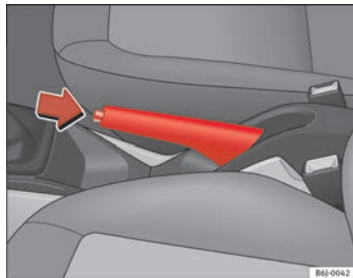

Fig. 103 Handbrake between the front seats ▶
- Pull the handbrake lever up firmly ⇒ fig. 103.
- Pull the lever up slightly and press the release knob in the direction of the arrow ⇒ page 139, fig. 103 and guide the handbrake lever down fully ⇒ .